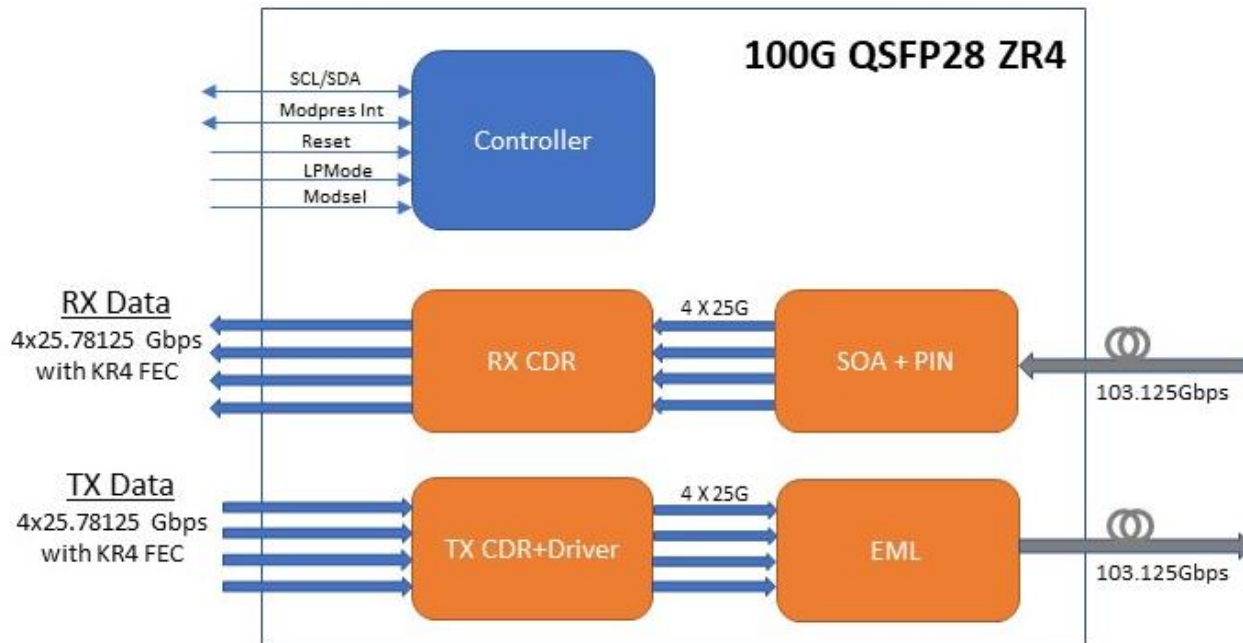

Figure 1. Transceiver Block Diagram
**3HE11239AA-80-FL** is designed for 80km optical communication applications. This module contains 4-lane optical transmitter, 4-lane optical receiver and module management block including 2 wire serial interface. The optical signals are multiplexed to a single-mode fiber through an industry standard LC connector. A block diagram is shown in Figure 1.